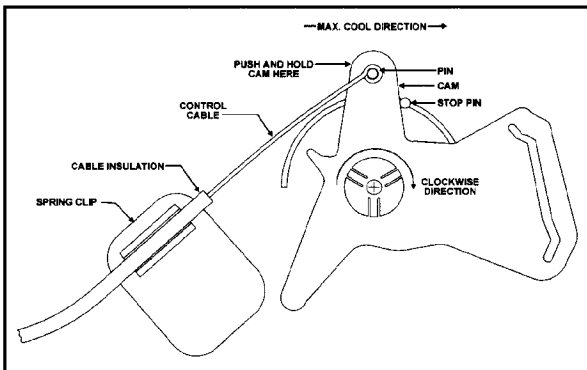

Figure 72: Bottom of HVAC Unit
- 4) Looking at the bottom of the HVAC unit, push and hold the cam lever with the control cable attached to the pin to maximum cool (clockwise) position. (Fig. 72)